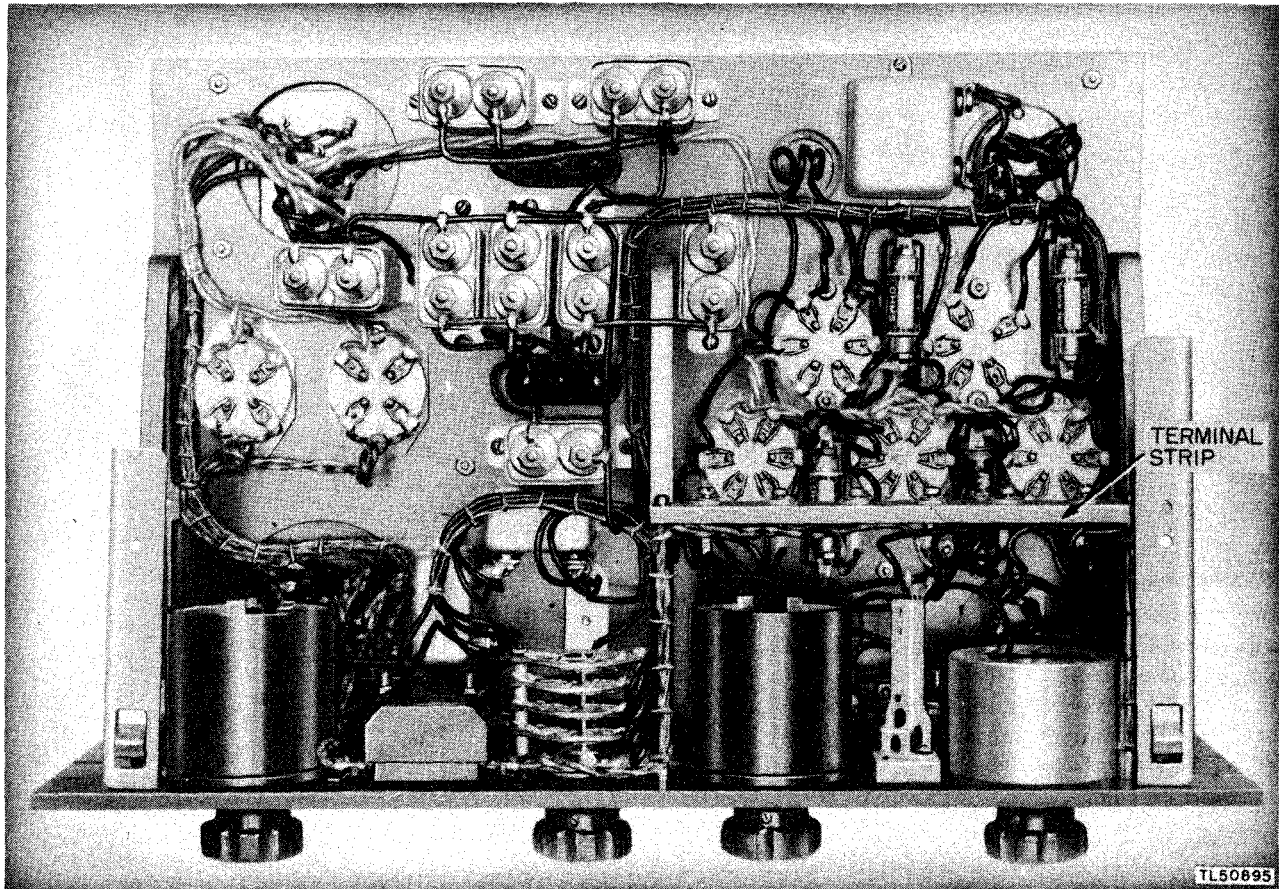

Figure 60. Recorder driving unit, type 4-C, bottom view.
d. All electrical connections to the recorder driving unit are made to the six-point terminal strip which is mounted on the bottom of the unit (fig. 60), on the left side as viewed from the panel. The terminals are marked INPUT, 110 VOLTS AC, and OUTPUT, and are for